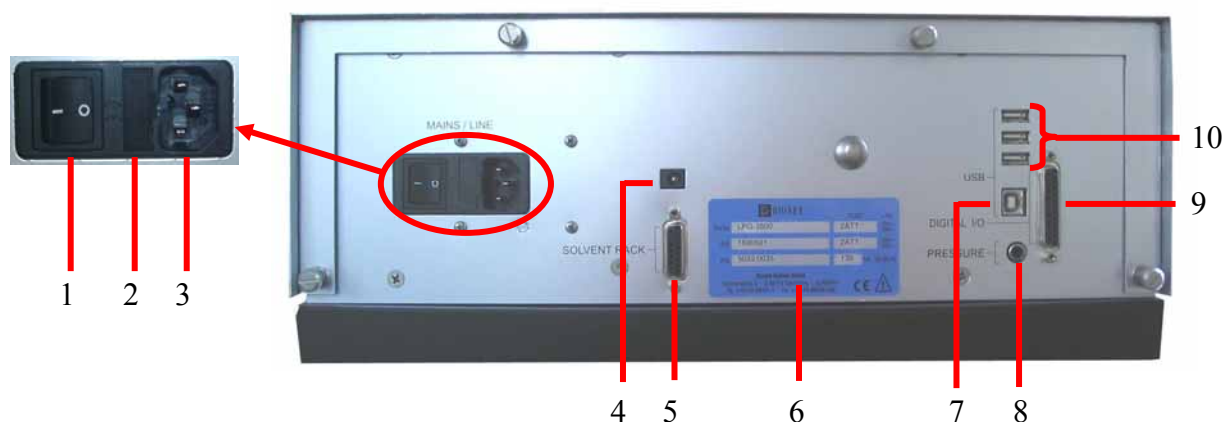

Fig. 5: Rear panel
The Chromeleon Chromatography Management System can use a USB connection to control the pump. Data is transferred digitally via the appropriate USB cable (5 m USB cable, part no. 6911.0002 or 1 m USB cable, part no. 6035.9035). The USB ports are provided on the instrument's rear panel (→ Fig. 5, page 20).
Connect the pump to the server PC via the USB port (→ Fig. 5, no. 7). To do so, select one of the following alternatives:
The other three USB ports (→ Fig. 5, no. 10) allow the pump to be connected to either one instrument in the UltiMate 3000 product line or one USB hub each. Additional UltiMate 3000 instruments can then be connected to the hub.
**Important:** Dionex recommends using these USB ports (→ Fig. 5, no. 10) for connections to Dionex instruments only. Dionex cannot guarantee correct functioning if instruments from other manufacturers are connected.
**Important:** Dionex recommande d'utiliser les ports USB (→ Fig. 5, n° 10) uniquement pour les raccordements aux instruments Dionex. Dionex ne peut garantir le bon fonctionnement si les instruments d'autres fabricants sont raccordés.
The digital I/O port on the pump (→ Fig. 5, no. 9) allows triggering or reading in external events. The port provides 3 inputs and 4 relay outputs.
The Solvent Rack port (→ Fig. 5, no. 5) allows connection of an SRD-3000 solvent rack with integrated degasser:
The analog pressure output (→ Fig. 5, no. 8) records the operating pressure of the pump. The pressure output is set to 5 mV/bar (50 mV/MPa). You may connect a device such as the UCI-100 Universal Chromatography Interface, a recorder, or an A/D converter, to monitor the pump pressure.